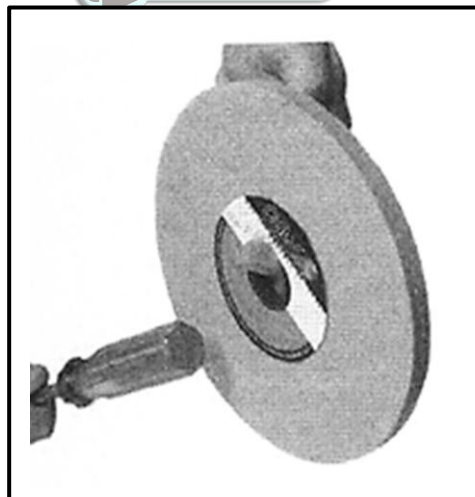

FIGURE 4.13
- (1)
- 4.13 FIGURE 4.13 below indicates a procedure performed on a grinding wheel. Which aspect is addressed with this procedure?